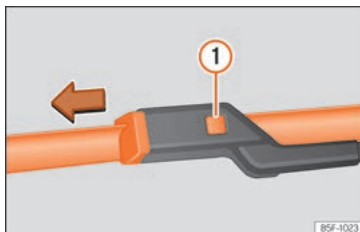

Fig. 85 Changing the windscreen wiper blades
- Press and hold release button » **Fig. 85 1** and pull gently on the wiper blade in the direction of the arrow.